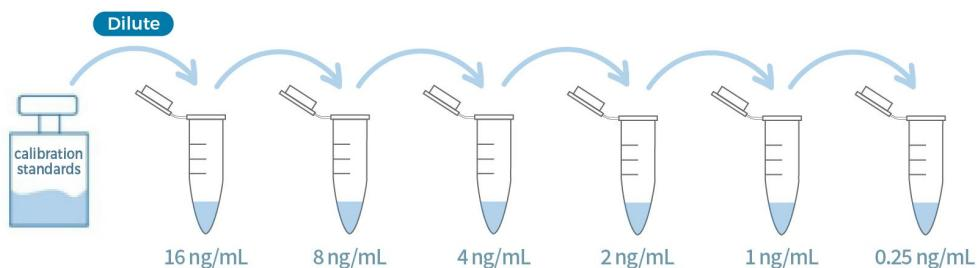

Figure 3. Graphic scheme of HSA Calibration Standard solutions
- Prepare HSA Calibration Standard solutions as indicated in Fig 3 and Table 3.